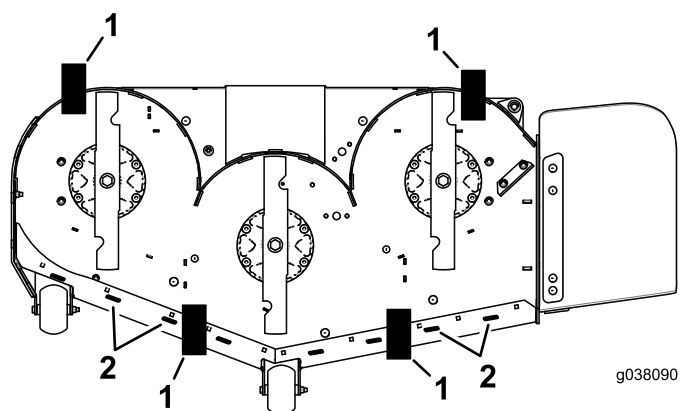

Figure 84
11. Place 2 blocks (see Block Height and Rake Table) under the rear edge of the cutting deck skirt; 1 on each side of the cutting deck (Figure 84).